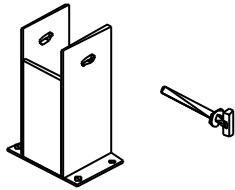

Figure 2
- a. Pin type tower (Refer figure 2)